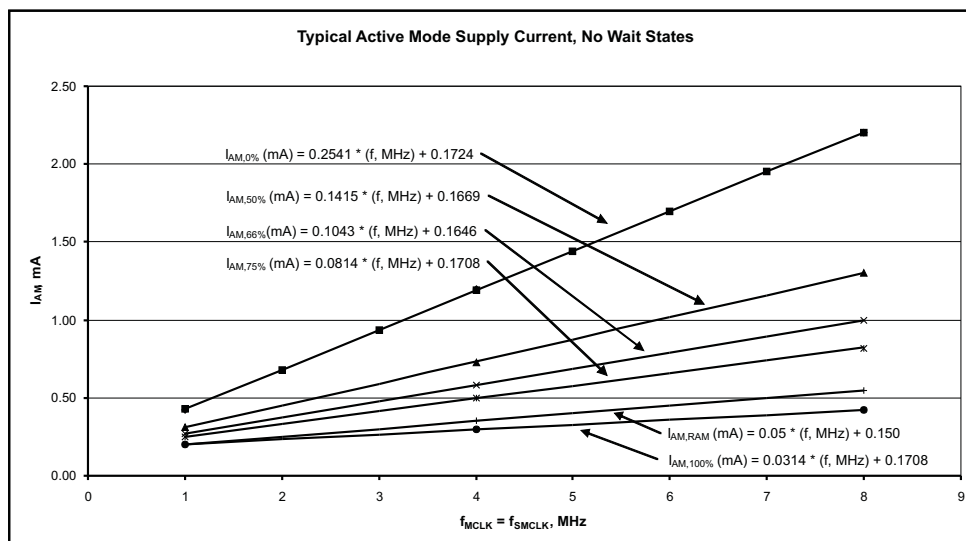

Figure 2. Typical Active Mode Supply Currents, No Wait States
- (8) See Figure 2 for typical curves. Each characteristic equation shown in the graph is computed using the least squares method for best linear fit using the typical data shown in Active Mode Supply Current Into V_{CC} Excluding External Current.